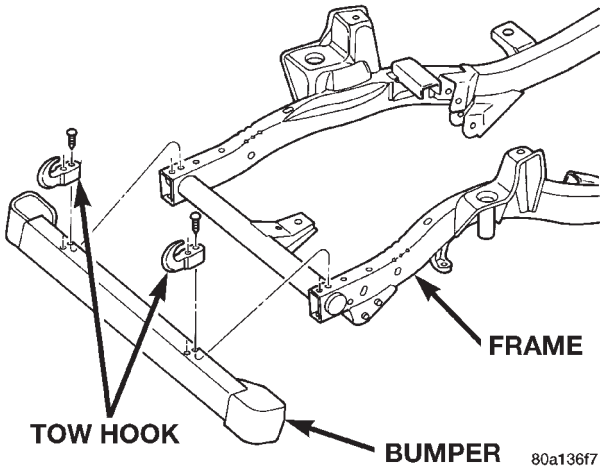

Fig. 1 Front Tow Hook
- (1) Remove the torx bolts that attach the tow hook to the bumper (Fig. 1).
- (2) Separate the tow hook from the bumper.